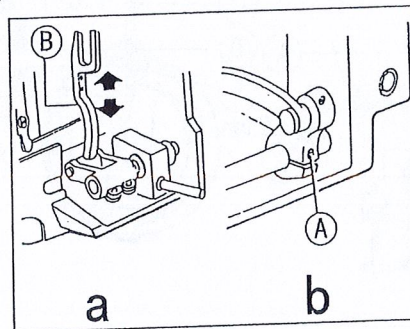

Fig. 25
- 2) Loosen Feed Rock Shaft Crank Screw ( A ). See Fig.25 ( b ).
- 3) Move Feed Bar ( B ) in the direction shown by the arrow in Fig. 25 ( a ) to adjust the feed dog position.